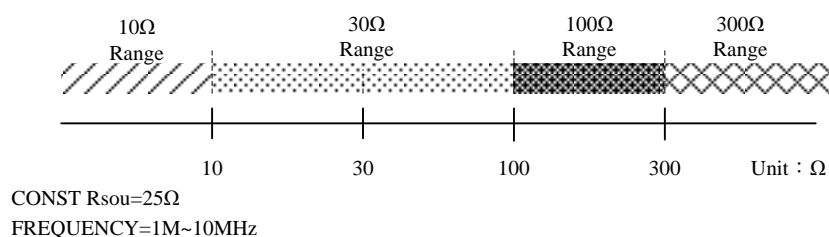

Figure 5-1 Range & Impedance (Z) Reference Table
The selection of RANGE needs to close to impedance value of DUT, it is for getting the optimum accuracy. It follows the known parameter to convert DUT impedance value and selects the required range by *Figure 5-1 Range & Impedance (Z) Reference Table*.
Get the required total impedance to correspond *Figure 5-1 Range & Impedance (Z) Reference Table* to find the corresponding range, for example total impedance of item 1 is 3.88Ω which is below of 10Ω so the range should be set to 10Ω . In the same way, the range of item 2 also select 10Ω . Total impedance of item 3 is 16.34Ω which is below of 30Ω and its measureable range is $10\sim 100$ so the range should be set to 30Ω .
- (8) Use direction control key (, , , ) on DISPLAY UNIT to highlight any setting of item 1. The right option of window shows parameter setting corresponded table during the cursor moving on the table. Press RETURN to switch it to the correction setting can be operated.